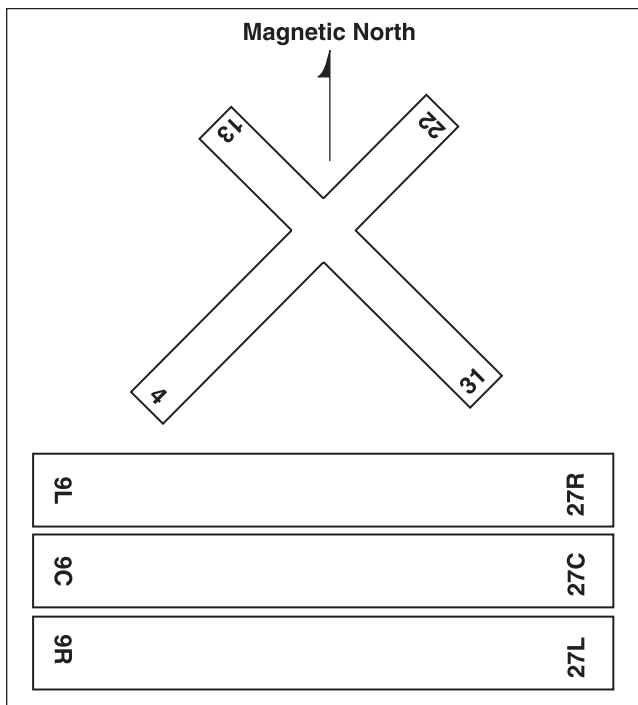

Figure 5-5. Runway numbers and letters
Runway numbers and letters are determined from the approach direction. The number is the magnetic heading of the runway rounded to the nearest 10°. For example, an azimuth of 183° would result in a runway number of 18; a magnetic azimuth of 076° would result in a runway numbered 8. Runway letters differentiate between left (L), right (R), or center (C). See Figure 5-5.